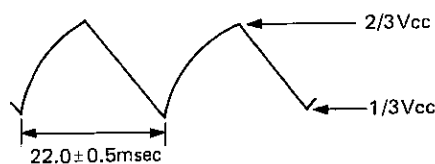

Figure 37.
3. Adjust R738 (buffer) to the requirement given in Fig. 37.